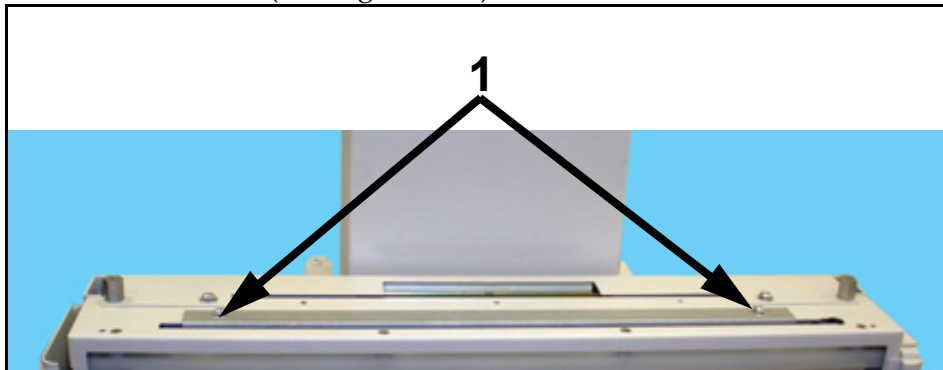

Figure E-14. Ion Chamber Mounting Screws
- 16** For optional ion chamber, secure chamber in place with mounting screws (1 in Figure E-14).